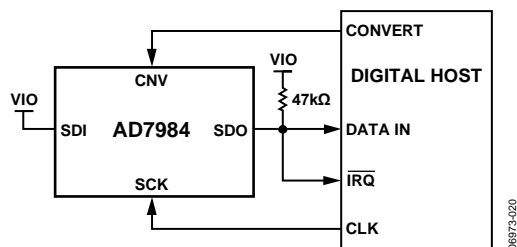
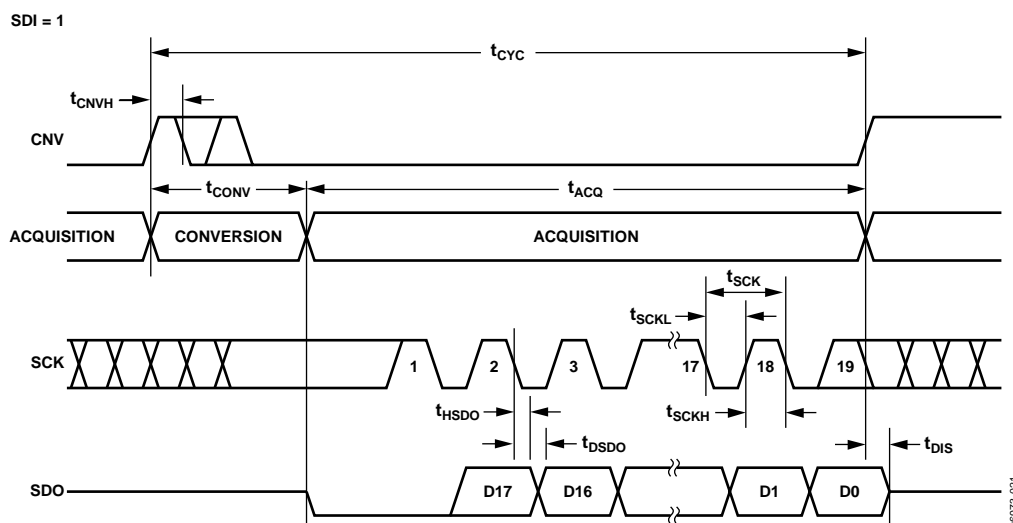
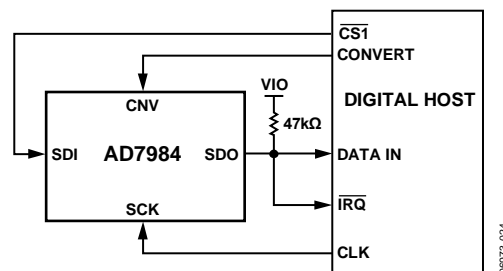
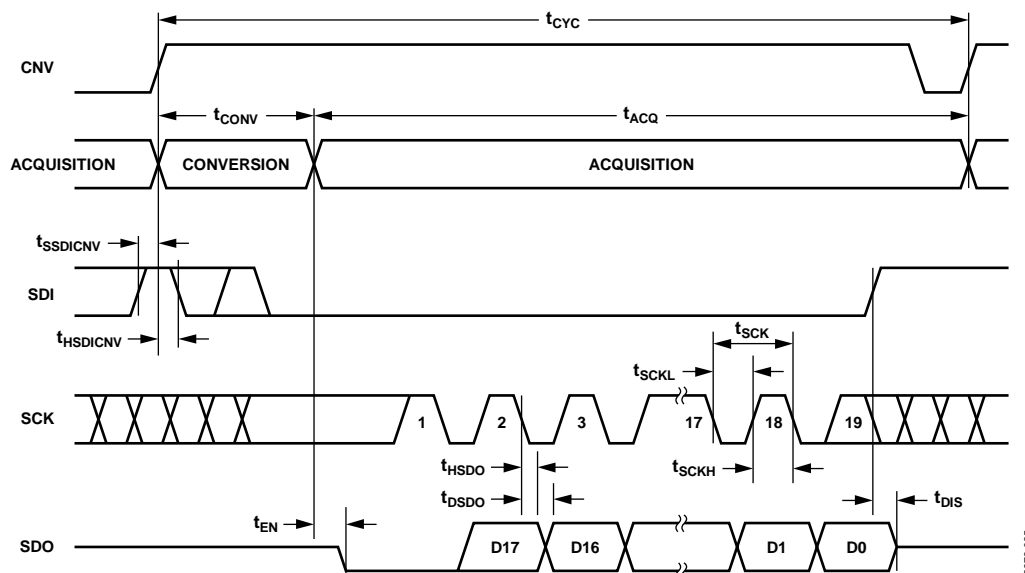

Figure 30. $\overline{\text{CS}}$ Mode, 3-Wire with Busy Indicator Connection Diagram (SDI High)
Figure 31. $\overline{\text{CS}}$ Mode, 3-Wire with Busy Indicator Serial Interface Timing (SDI High)
Figure 34. $\overline{\text{CS}}$ Mode, 4-Wire with Busy Indicator Connection Diagram
Figure 35. $\overline{\text{CS}}$ Mode, 4-Wire with Busy Indicator Serial Interface Timing
- In $\overline{\text{CS}}$ mode if CNV or SDI is low when the ADC conversion ends (see Figure 31 and Figure 35).
The connection diagram is shown in Figure 30, and the corresponding timing is given in Figure 31.
The connection diagram is shown in Figure 34, and the corresponding timing is given in Figure 35.